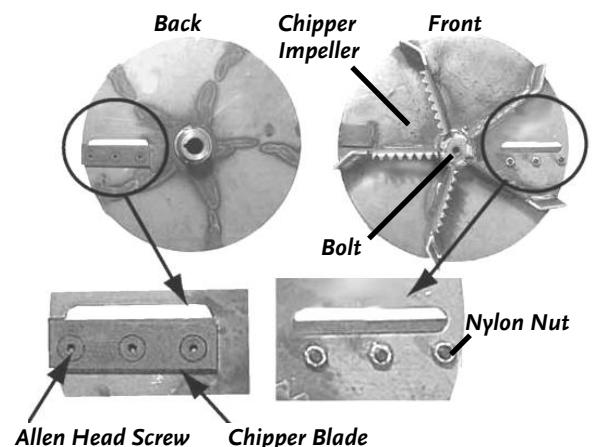

Figure 47
4. Using the 9/16" wrench or socket, remove the Chipper Impeller retaining Bolt from the engine shaft and slide the Impeller off the shaft (**Figure 47**). Be sure to save the key in the slotted shaft.
5. The Chipper Blade is attached to the Impeller with three (3) Allen head screws and three (3) Nylon Lock Nuts (**Figure 47**). Using the 3/16" Allen wrench and 1/2" wrench, remove the old Chipper Blade by removing the three (3) screws and nuts.